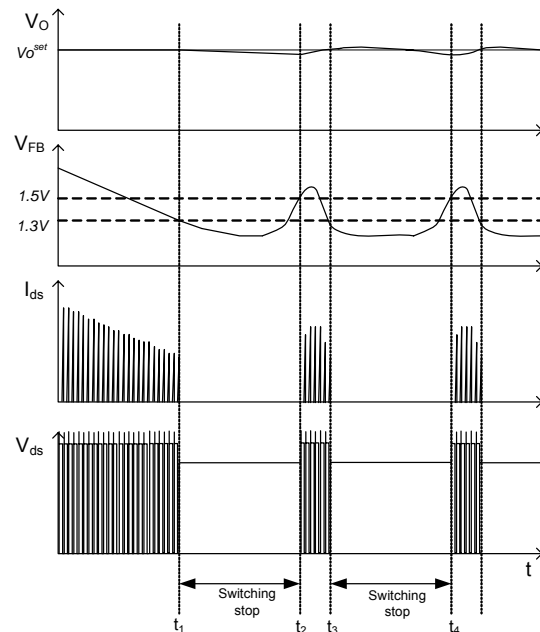

Figure 25. Burst-Mode Operation
6. Burst Operation: To minimize power dissipation in standby mode, the FSFA2100 enters burst-mode operation. As the load decreases, the feedback voltage decreases. As shown in Figure 25, the device automatically enters burst mode when the feedback voltage drops below V_{BL} (1.3V). At this point, switching stops and the output voltages start to drop at a rate dependent on standby current load. This causes the feedback voltage to rise. Once it passes V_{BH} (1.5V), switching resumes. The feedback voltage then falls and the process repeats. Burst-mode operation alternately enables and disables switching of the MOSFETs, thereby reducing switching loss in standby mode.